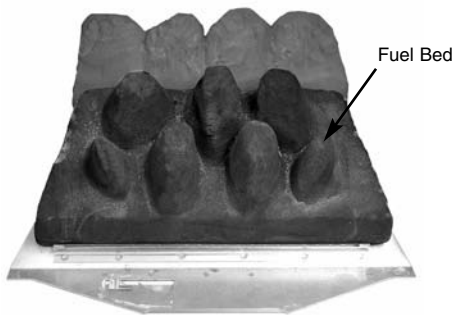

Fig. 43
2. Place the main fuel bed on to the middle section of the metal burner tray. It is important that the front edge of the fuel bed is located behind the burner strip (Fig. 43).